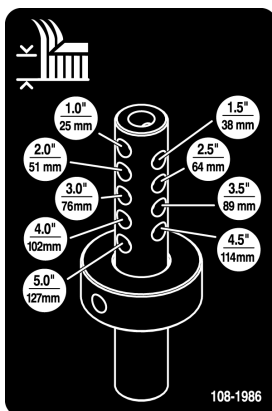

Figure 9
6. Align the height-of-cut collar to the desired height-of-cut holes on the height of cut rod (Fig. 9).